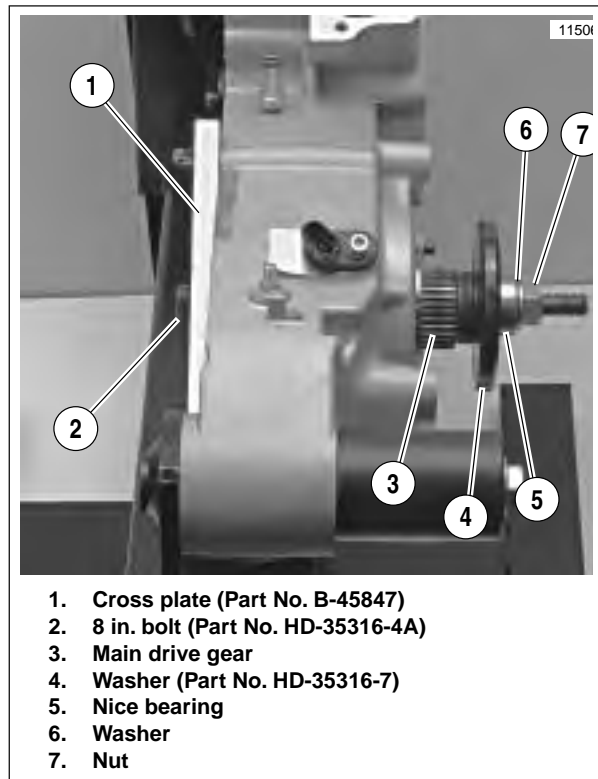

Figure 6-69. Removing Main Drive Gear Bearing (Typical)
5. See Figure 6-69. Insert bolt (2) through cross plate (1) and 5th gear (3).